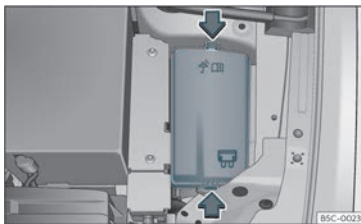

Fig. 48 In the engine compartment: fuse box cover.
- Press the locking tabs to release the fuse box cover >>> **Fig. 48**.